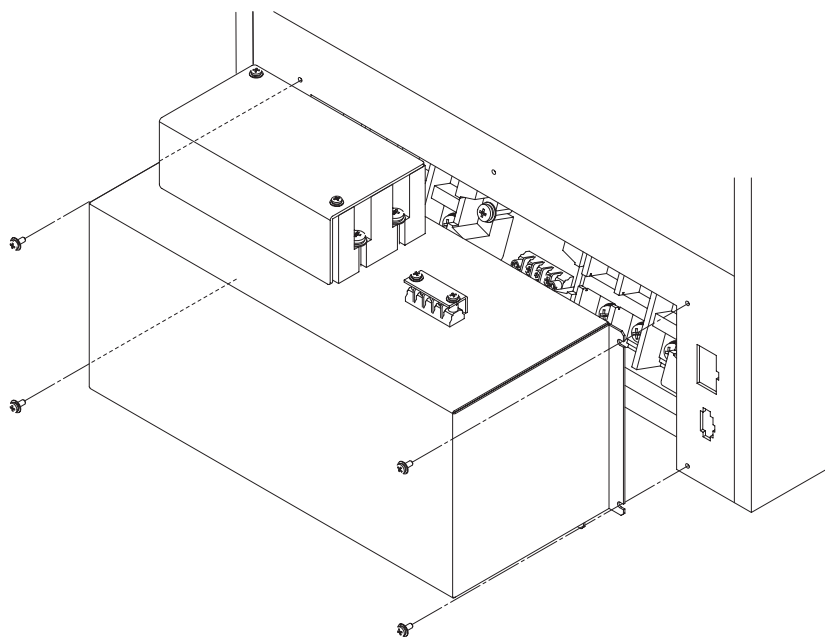

Fig. 2-3 Fixing the Parallel Terminal to the PCR-LA AC Power Supply
3. Fix the Parallel Terminal to the power supply using the screws (M3) removed in step 2 above (Fig. 2-3).